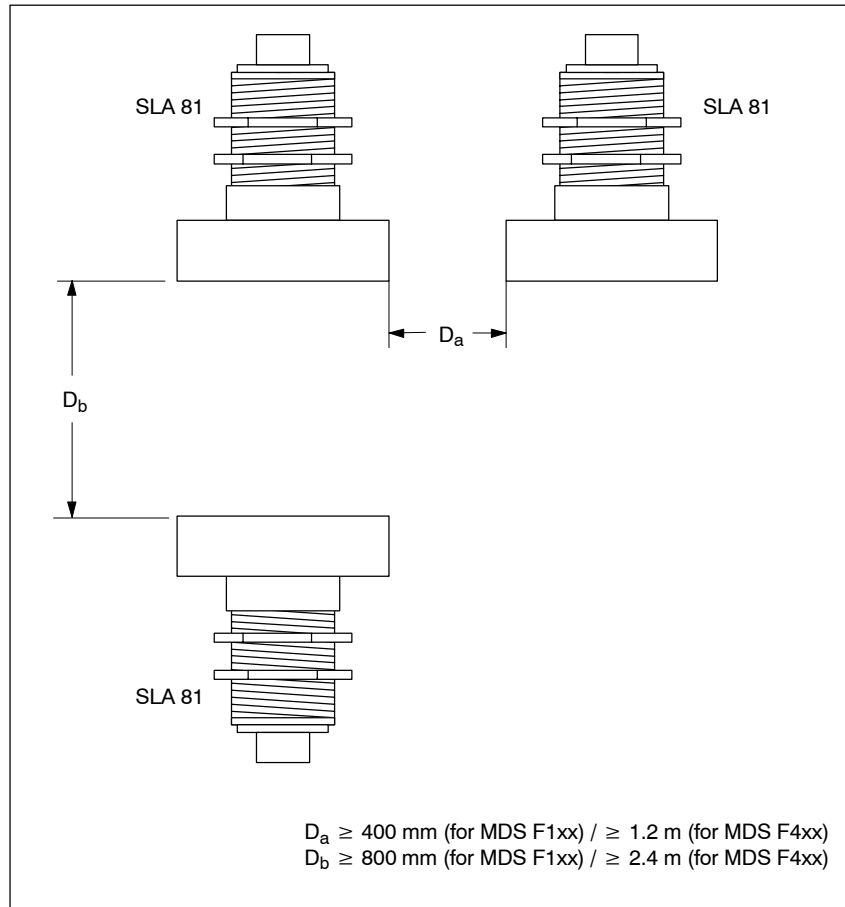

Figure 5-25 Distance D: SLA 81
Minimum distance from SLA to SLA (D)	See figure 5-25